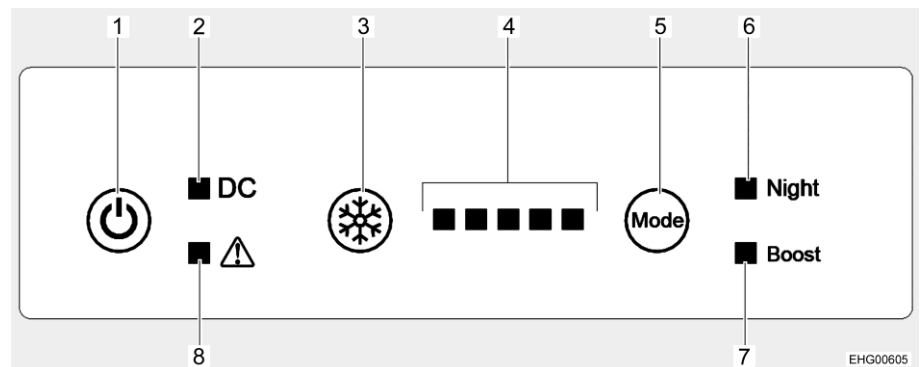

Fig. 244 Operating controls (refrigerator)
**Switching on:** ■ Press the On/Off button (Fig. 244,1). All indicator lamps light up (light test) and go out after approx. 3 seconds. Only the operation indicator lamp (Fig. 244,2) remains lit, indicating that the refrigerator is working. The compressor starts after a short delay.
**Switching off:** ■ Press the On/Off button (Fig. 244,1). The Operation indicator lamp (Fig. 244,2) goes out.
**Setting the cooling level:** ■ Press the button for cooling setting (Fig. 244,3) repeatedly until the desired cooling level is displayed. The more indicator lamps (Fig. 244,4) are lit, the higher the cooling power (and also the energy consumption).
- Switching on the night mode: ■ Press the operating mode button (Fig. 244,5) repeatedly until the night mode indicator lamp (Fig. 244,6) is lit. The refrigerator is now working in night mode.
- Switching off the night mode: ■ Press the operating mode button (Fig. 244,5) repeatedly until the night mode indicator lamp (Fig. 244,6) goes out. The refrigerator is working in normal mode again.
- Switching on the boost mode: ■ Press the operating mode button (Fig. 244,5) repeatedly until the boost mode indicator lamp (Fig. 244,7) is lit. The refrigerator is now working in boost mode.
- Switching off the boost mode: ■ Press the operating mode button (Fig. 244,5) repeatedly until the boost mode indicator lamp (Fig. 244,7) goes out. The refrigerator is working in normal mode again.